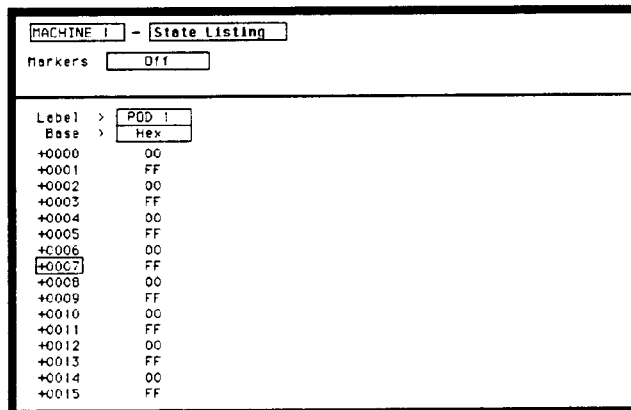

Figure 3-18. State Listing for Data Test 3
- Press **RUN**. The **State Listing** is displayed and lists alternating Fs and 0s as in figure 3-18.